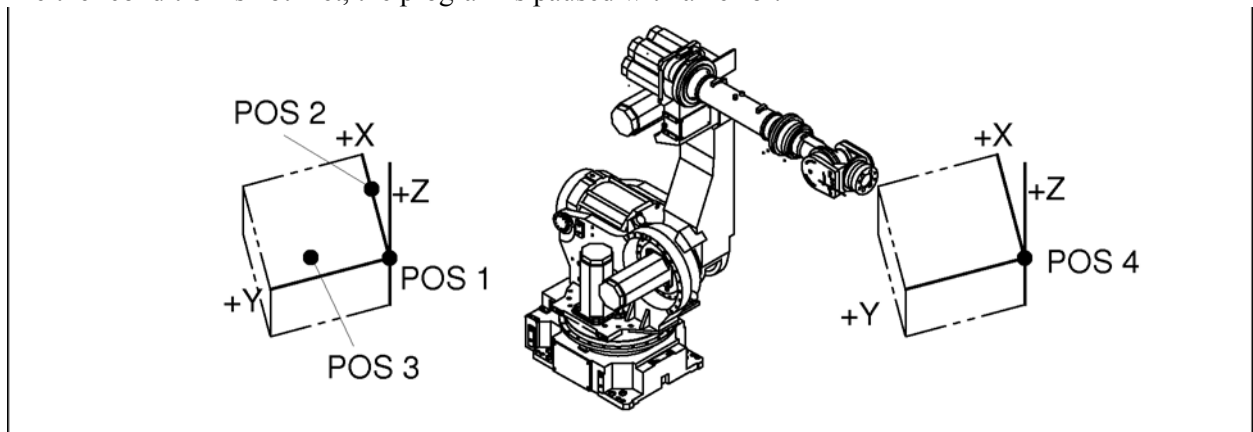

Fig. A.7.6 FRAME Built-In Function
- *pos1* is assumed to be the origin unless a *pos4* argument is supplied. See Figure A.7.6 .
- If *pos4* is supplied, the origin is shifted to *pos4* , and the new coordinate frame retains the same orientation in space as the first coordinate frame. See Figure A.7.6 .
- The x-axis is parallel to a line from *pos1* to *pos2* .
- The xy-plane is defined to be that plane containing *pos1* , *pos2* , and *pos3* , with *pos3* in the positive half of the plane.
- The z-axis is through *pos1* and perpendicular to the xy-plane. The positive direction is determined by the right hand rule.
- The configuration of the result is set to that of *pos1* , or *pos4* if it is supplied.
- *pos1* and *pos2* arguments must be at least 10 millimeters apart and *pos3* must be at least 10 millimeters away from the line connecting *pos1* and *pos2* .